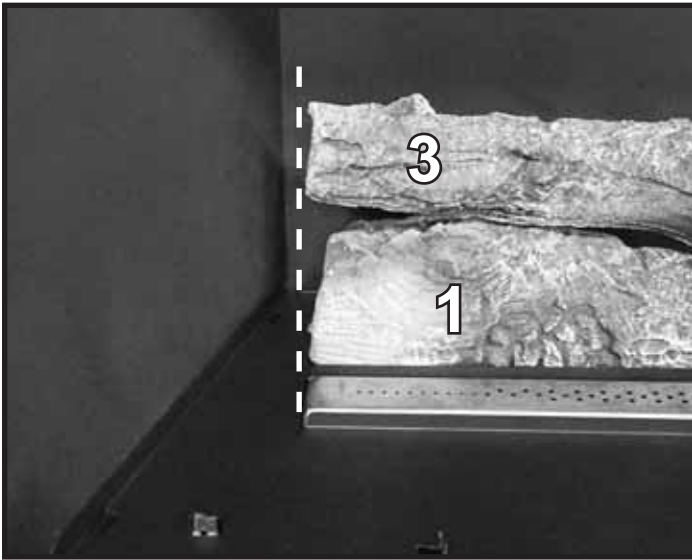

Figure 7. Log #1 and Log #3 Alignment (SLR-X-AU Only)
**Note:** When Log #3 is correctly positioned on Log #1, the left side of both logs will line up vertically. See Figure 7. (SLR-X-AU Only)